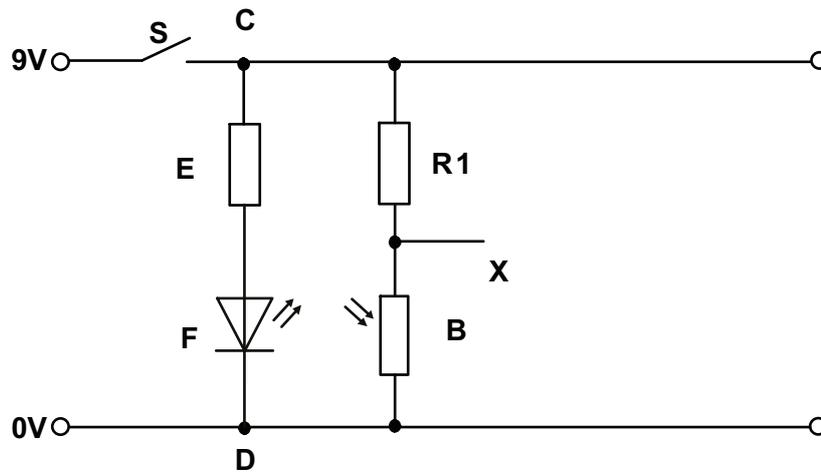
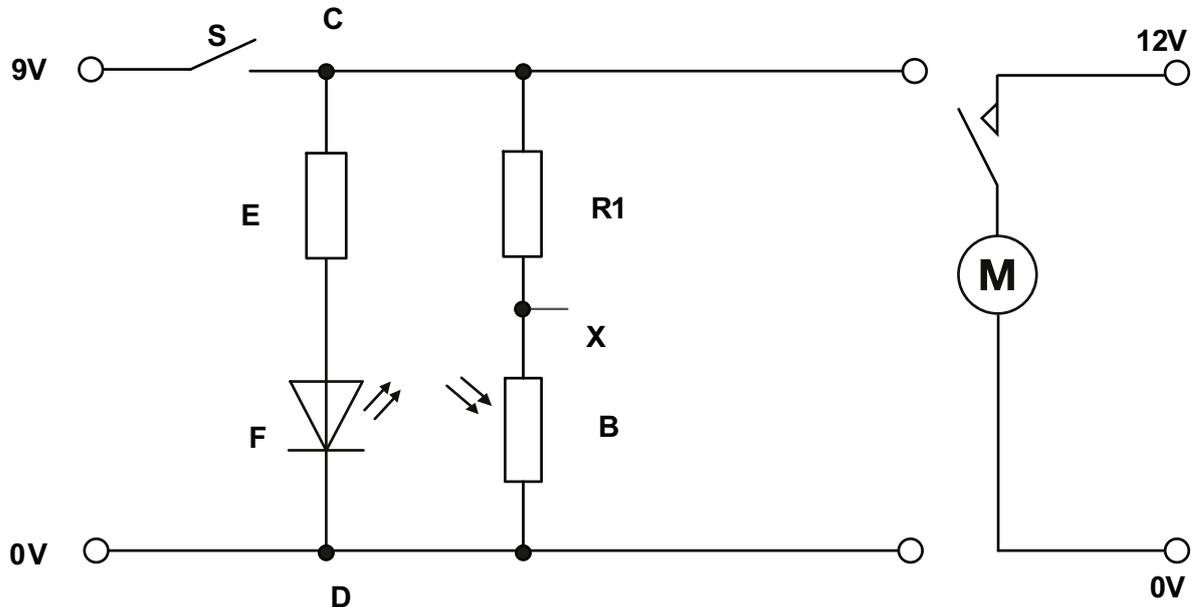

Fig. 3
Fig. 4
In **Fig. 3**, **R2** has been replaced with component **B** and an additional part of the circuit has been added between **C** and **D**.
- (ii) Name the component labelled at **B** in **Fig. 3** and explain the effect it will have on the operation of the output.
- (iii) Name the component labelled **F** in **Fig. 3** and outline its purpose in the circuit.
- (iv) What does the resistor **E** protect component **F** against in **Fig. 3**?
- (v) When the circuit in **Fig. 3** was tested by operating switch **S** component **F** was damaged and would not operate.
- (vii) The values for the E12 series of resistors are shown below. What is the value of the resistor that should be used as the replacement at **E** in **Fig. 3**?
(d) The circuit shown in **Fig. 3** is to be developed to enable a 12V motor to be operated from a separate circuit as shown in **Fig. 4**.
Complete **Fig. 4** to enable the 12V motor to operate as described.